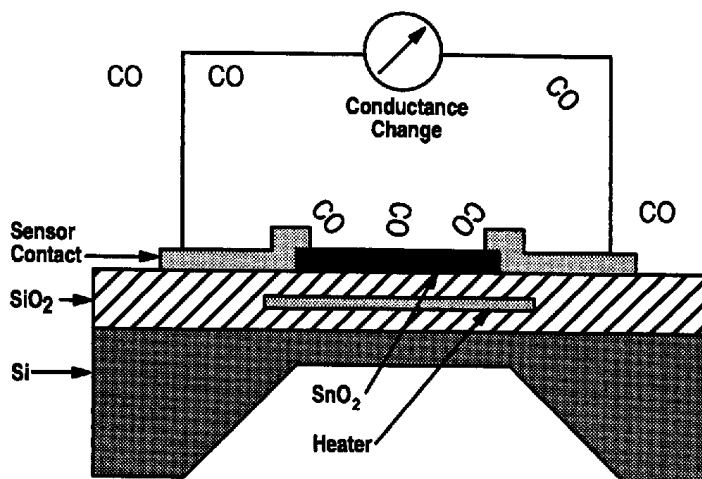

Figure 1. MGS1100 CO Sensor Cross-Sectional Schematic
The Motorola MGS1100 carbon monoxide (CO) sensor features a gas sensitive, thin film metal-oxide layer over an embedded micro-heater, see Figure 1. The heater is used to raise the temperature of the film to enhance its sensitivity to CO. This structure is supported by a micromachined silicon diaphragm for reduced power consumption. The sensor is packaged in a 4-pin SENSEPACK™ package with a nylon overcap that supports an active charcoal filter used to selectively screen unwanted gases that can react with or damage the sensitive layer. The pins include connections to the heater ($\pm V_H$) and sensing layer ($\pm V_S$).